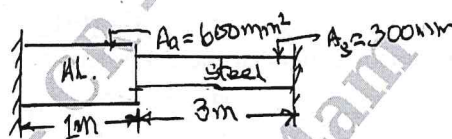

Fig. Q.2(b)
- b. A composite bar is rigidly fitted at the supports A and B as shown in the Fig.Q.2(b). Determine the reactions at the supports when temperature rises by 20°C. Take $E_a = 70 \text{ GN/m}^2$, $E_s = 200 \text{ GN/m}^2$, $\alpha_a = 11 \times 10^{-6}/^\circ\text{C}$ and $\alpha_s = 12 \times 10^{-6}/^\circ\text{C}$. (10 Marks)